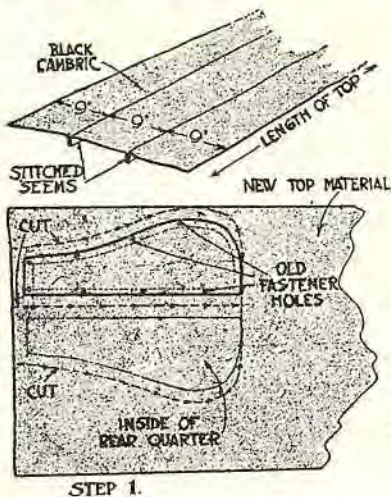

Fig. 6. The side pads are a single strip of cambric 9" wide and sewed as shown.
3. The side-pad covers should now be made, according to the pattern shown in Fig. 6. On the Ford, black cambric is used, but in every case the material should conform in color and quality to that used in the top material.